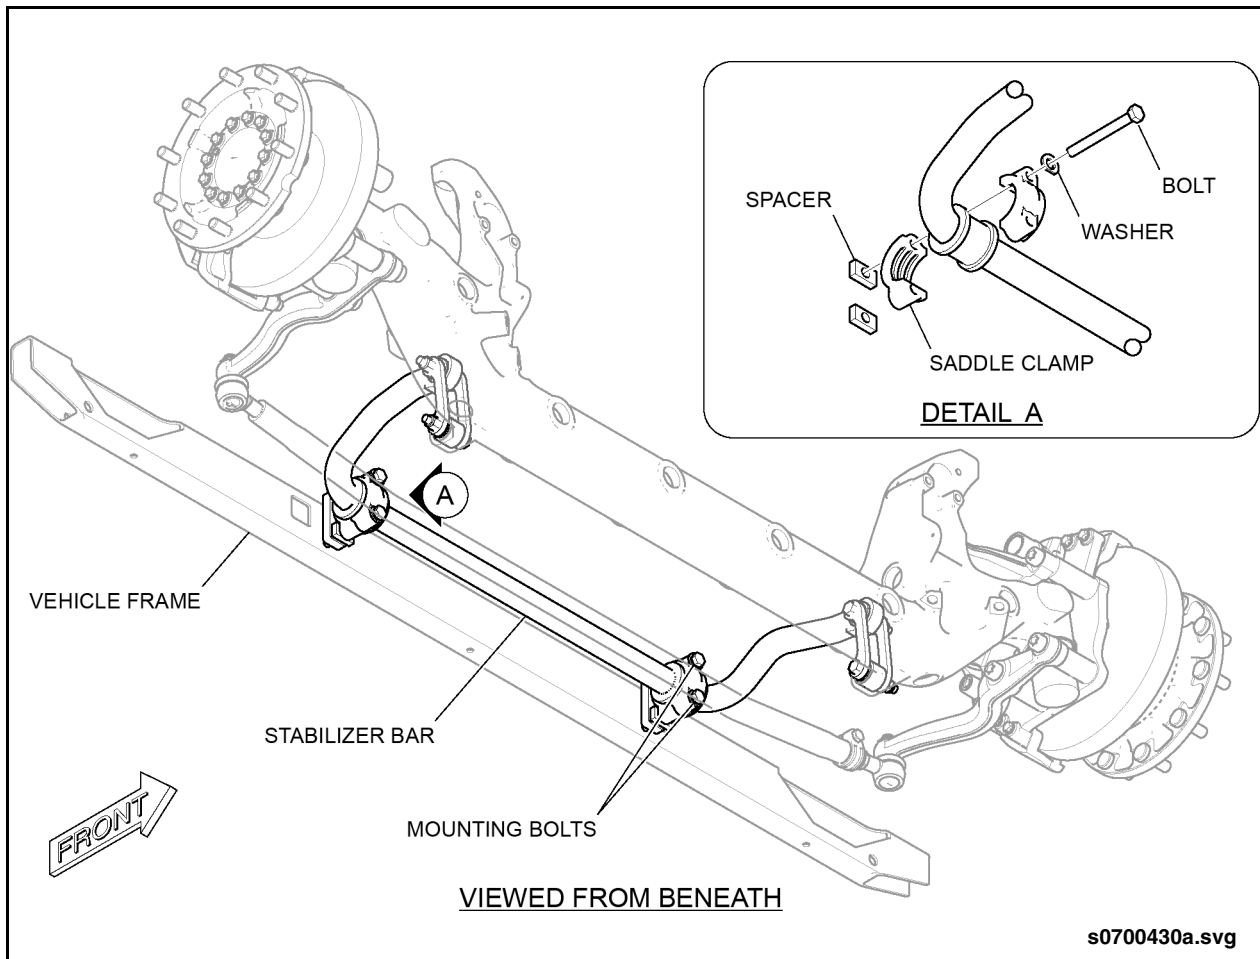

Fig. 2: Stabilizer Bolt Replacement
1. Locate the four 5/8" bolts that attach the stabilizer bar to the vehicle frame. See "Fig. 2: Stabilizer Bolt Replacement" on page 3.